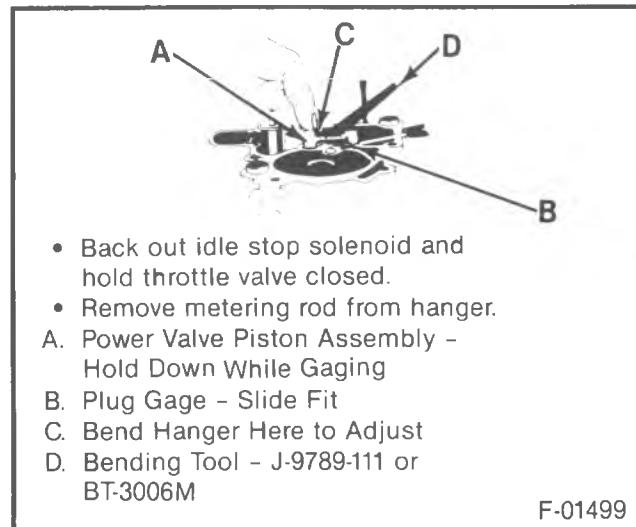

Figure 36 - Metering Rod Adjustment
Adjust (Figures 36, 44)
- If an adjustment is needed, bend at point "C" shown in Figure 36.
9. Install metering rod and spring assembly (279) as follows: